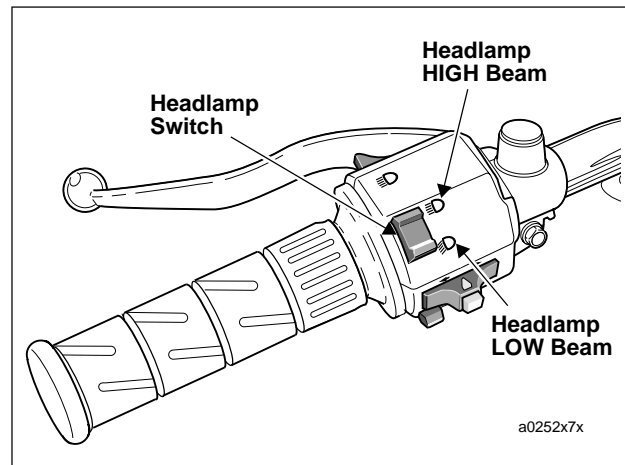

Figure 7-66. Headlamp Switch
- b. See Figure 7-66. Check headlamp LOW and HIGH beam settings.
7. See Figure 7-66. Turn ignition switch to IGN. Set handlebar headlamp switch to HIGH beam position.